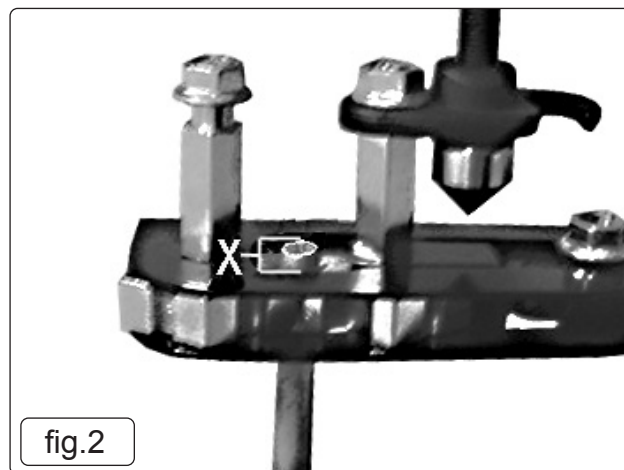

fig.2
- 4.2. Open the clamp and select the appropriate matching semi-cylindrical indentations on the two rotating dies. Insert the prepared end of the pipe between the rotating dies and grip the handles of the tool, bringing them together forcefully. Adjust the protrusion of the pipe so that 'X' (fig.2) is at least 1/8" to 3/16" depending on pipe size - the larger the pipe - the greater 'X' should be.